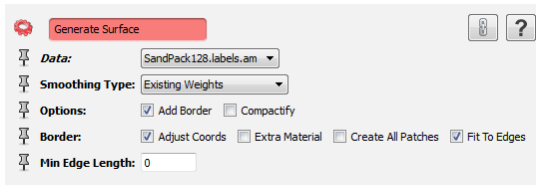

Figure 5.11: *Generate Surface* module parameters.
- Connect a *Generate Surface* module to the label image (see Figure 5.11).